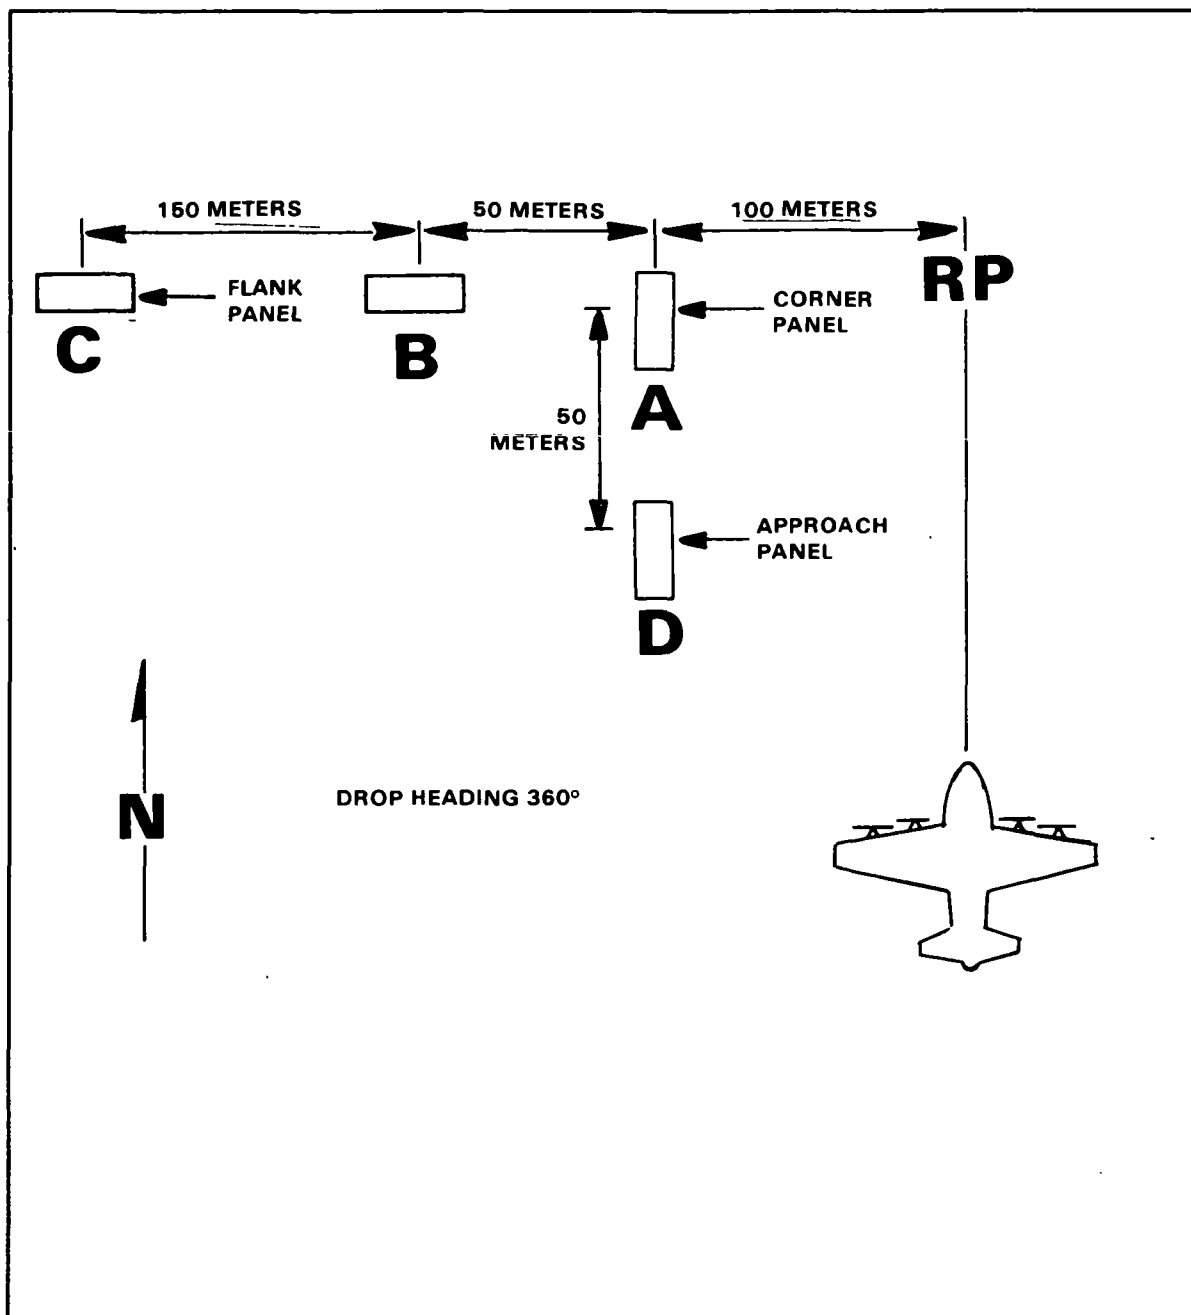

Figure 16-3. Ground marking release system.
a. The GMRS uses markings known as the inverted L. When the drop aircraft is 100 meters directly to the right of the corner (A) panel, the drop is executed.
(1) From the RP, move 100 meters to the left (90 degrees) of drop heading. This is the location of the corner (A) panel. Emplace a VS-17G panel with the long axis or the panel parallel with drop heading. The panel is elevated at a 45-degree angle toward the approaching aircraft. This aids the aircrew and the jumpmaster in visual identification of the DZ.
(2) From the corner (A) panel, move in the same direction as above for 50 meters. This is the location of the alignment (B) panel. Emplace this panel the same as described above.
(3) From the alignment (B) panel, move 150 meters in the same direction as above. This is the location of the flanker (C) panel. Emplace this panel the same as described above.
(4) From the corner (A) panel, move 50 meters on a back azimuth of a drop heading. This is the location of the approach (D) panel. Emplace this panel the same as described above.
(5) At night, replace all panels with a white light. Lights may be shielded on three sides or placed in pits.
(6) During daylight operations, smoke may be displayed at the release point. During nighttime operations, a white air traffic control light may be used (Figure 16-3).
(7) NO DROP may be signaled to the aircraft by red smoke, red flares, scrambled panels, or the absence of a planned signal.